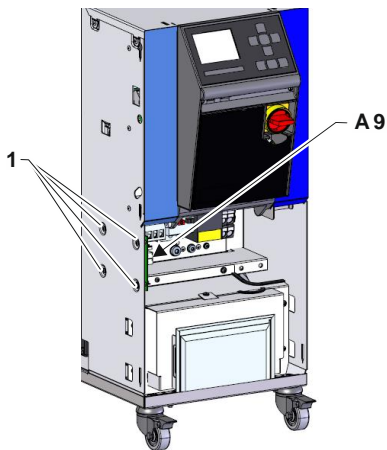

Fig. 1.: Electric part HB200/230Z2B
- Remove 4 x screws (Label 1 → Fig. 1) on the electric part
- Attach new DFM-53 (A 9) in the electric part and fasten it with 4x screws (Label 1 → Fig. 1) .